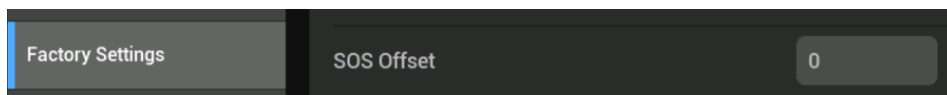

Figure 176 - SOS Offset
**SOS Offset:** It is a small offset to be applied to the measured offsets in SOS measurements on systems with oil quality sensing. **Figure 176**.